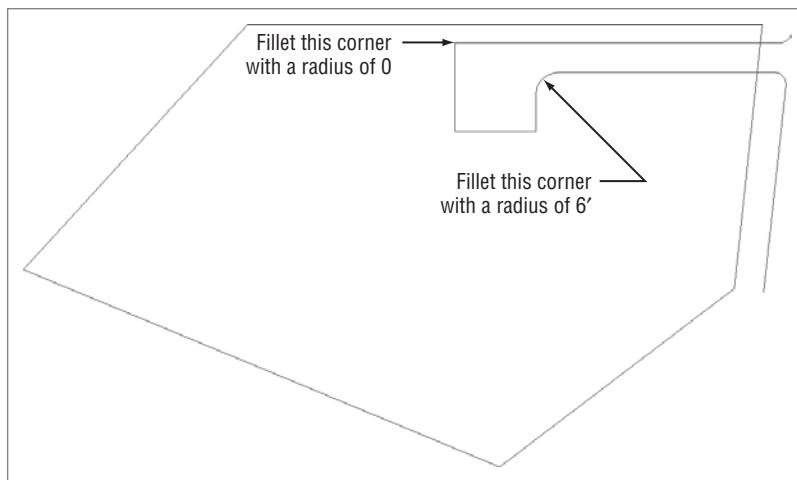

FIGURE 13.9 Completing the driveway
4. Fillet the intersection of the upper driveway line and the left vertical line with a radius of 0 and the intersection of the lower driveway line and the right vertical line with a radius of 6' (see Figure 13.9).